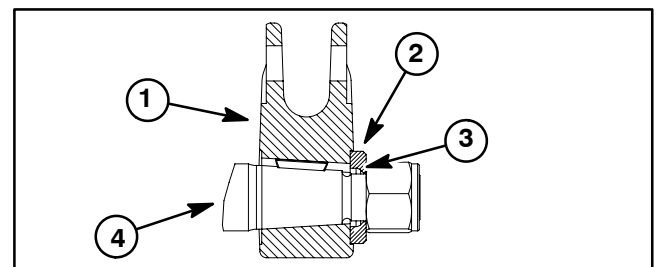

Figure 25
A. If rear lift arm was removed from deck lift shaft, make sure to thoroughly clean tapers of shaft and lift arm bore before installing lift arm to shaft. Also, when installing washer (item 26), position washer cavity toward lift arm (Fig. 25).